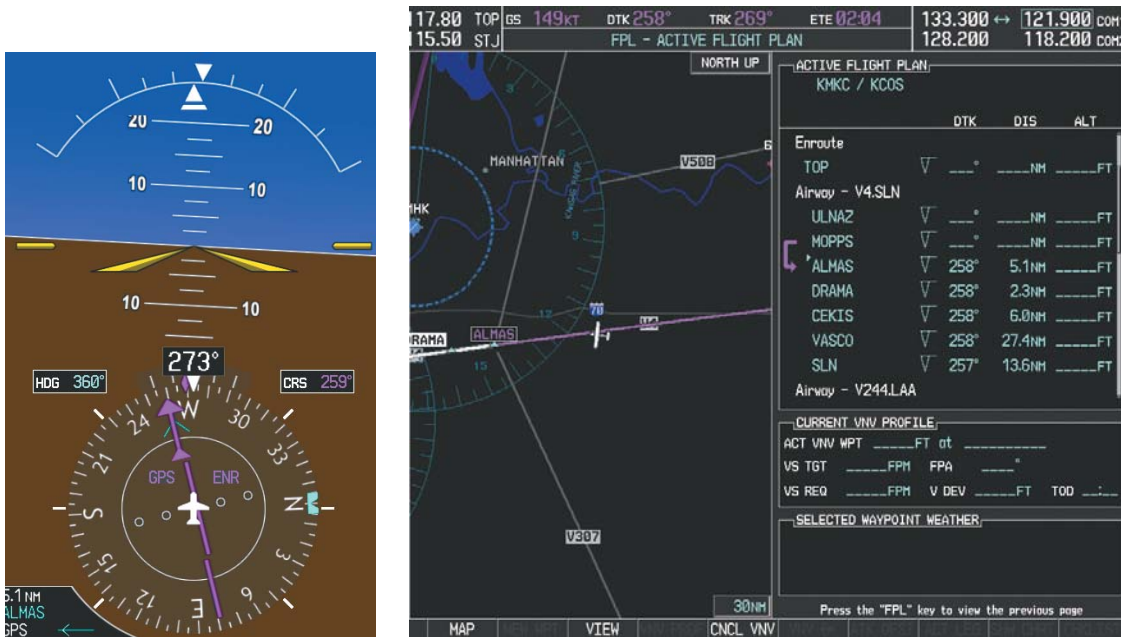

Figure 5-116 Turn on to Active Leg
7) As the CDI approaches center, the aircraft turns onto the active leg as seen in Figure 5-116.